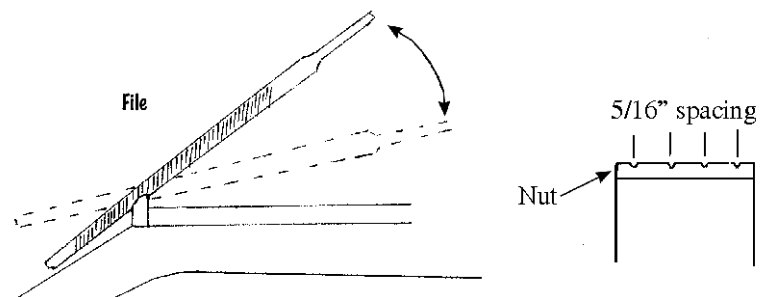

FIG. 26
22. We have included a needle file in the kit for filing narrow grooves in the nut to hold four of the strings. Space the strings roughly 5/16" apart, and make the grooves very shallow at first. Work the file at angles to ease the string over the top of the nut. (fig. 26)